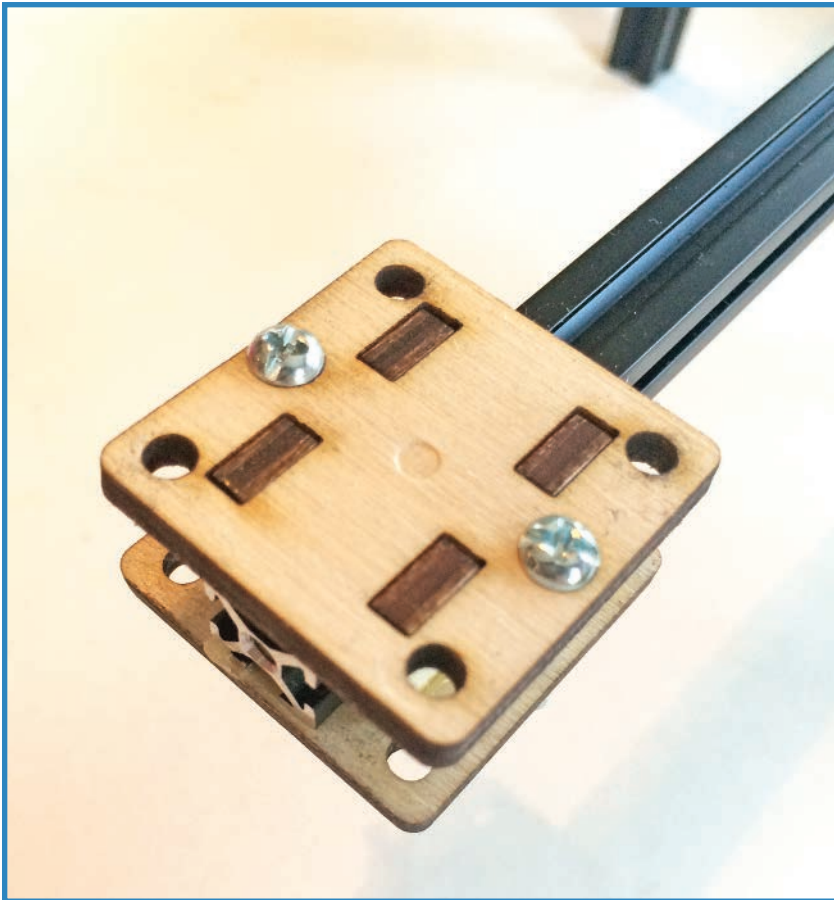

FIGURE 6.9 Attach the motor mounts to the booms.
2. Attach the motor mounts to the booms, as shown in Figure 6.9. I bolted the wooden parts together using #4 screws for tension. If you need more friction, try trapping a piece of double-sided tape between the wood and metal.